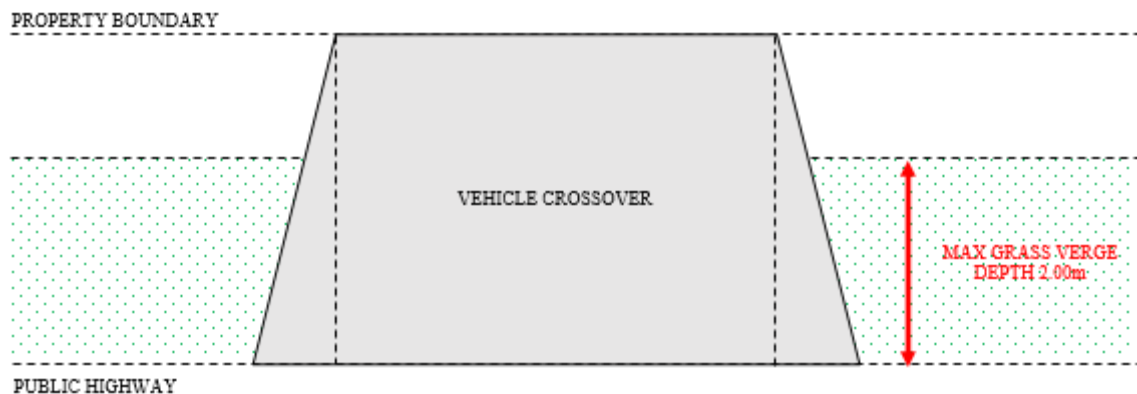

Figure 10: Maximum Grass Verge Depth.
- Figure 10: Maximum grass verge depth
- g) **Grass Verges** – If the proposed crossover or extension would require removal of a grass verge greater than **2.0m** deep (**1.6m** deep in Conservation Areas and Local Areas of Special Character), measured at right angles to the highway, as shown in Figure 10, below, the application will be refused.